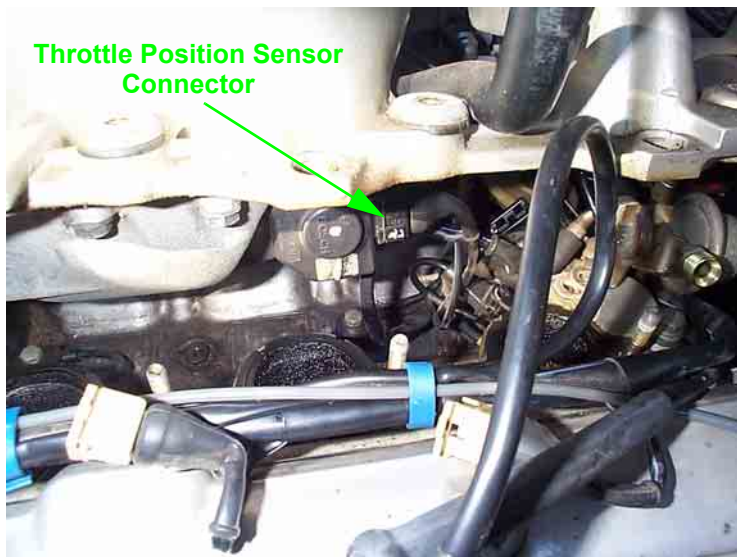

FIGURE 14
- b. With the intake lifted up on the driver's side, disconnect the throttle position sensor harness connector. See *Figure 14*.